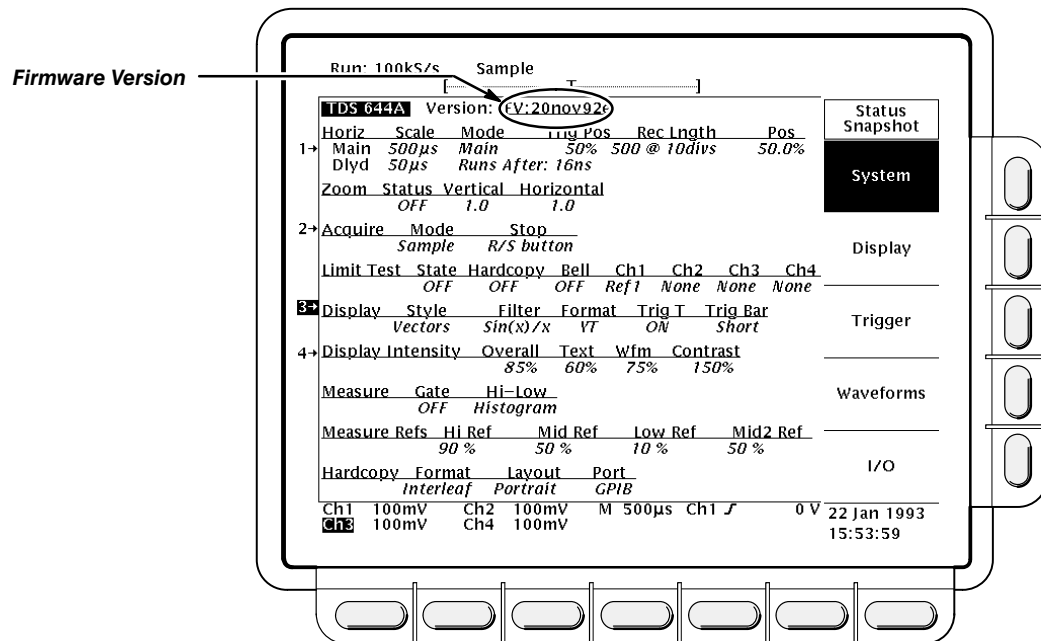

Figure 3-69: Status Menu — System
- **System** displays information about the Horizontal, Zoom, Acquisition, Measure, and Hardcopy systems (Figure 3-69). This display also tells you the firmware version.